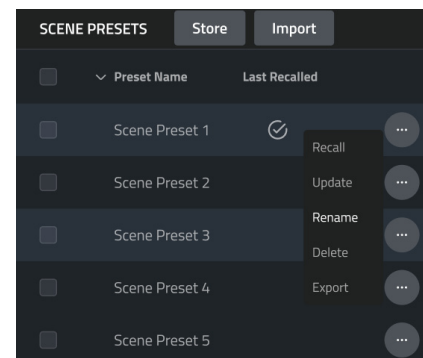

Figure 37: Managing single Scene
Click on the icon  next to the actual Scene Preset will bring up a menu allow you to perform the following actions, see **Figure 37**.
- 1) First you recall the Scene Preset you would like to update, once the Scene Preset is recalled, there will be a "Check" icon next to the Scene Preset Name as shown in **Figure 37**.
- Click the "Check Box" on the left of the Scene Name, 3 action button will pop-up at the Bottom (Delete, Recall, Export), see **Figure 37**.